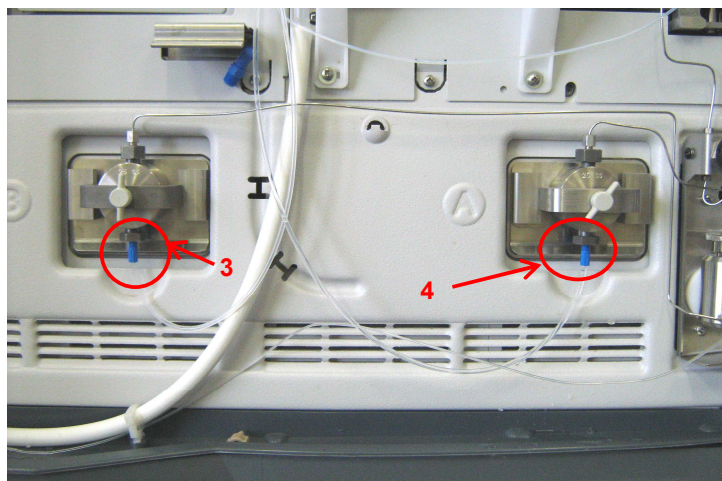

Figure 5: Pump B inlet check valve location
5. Remove the tubing connecting the Pump A inlet check valve (4) to the SUM selection valve A (5) Figure 5 and 6.
6. Attach the second de-bubbler from the Pump A inlet valve (4) to the SUM selection valve A (5) Figure 5 and 6.